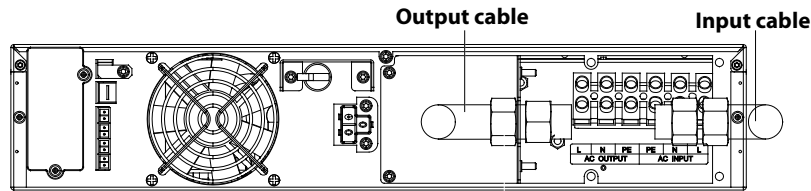

Figure 18: I/O Cable placement
4. Connect the input power source line, neutral, and ground cables to the input line (L), neutral (N), and ground (PE) terminals on the UPS I/O terminal block and tighten the fixing screws (see Figures 18 and 19).
5. Connect the UPS output line, neutral and ground cables to the output line (L), neutral (N), and ground (PE) terminals on the UPS I/O terminal block and tighten the fixing screws (see Figures 18 and 19).